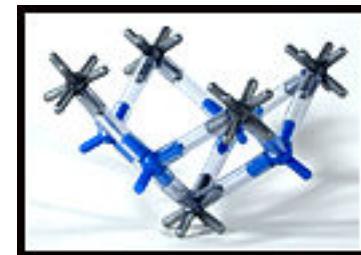

Fig. 5 Attaching four calcium ions.
2. Continuing step 1, attach the bonds of the calcium ions to the fluorides. See Fig. 5.